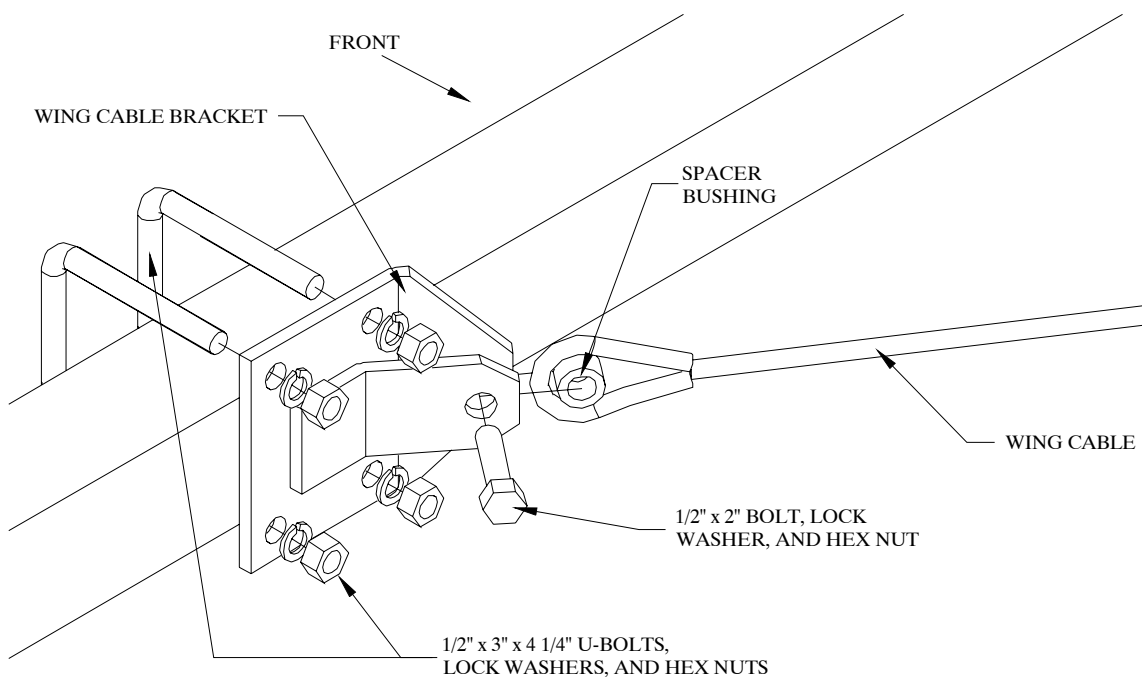

Figure 10
2. Bolt the wing cable brackets to the free end of the wing cables. Refer to Figure 10 on the previous page. Place one of the 17/32" ID x 15/16" OD x 9/16" spacer bushings into the free ends of the wing cables, then bolt the wing cables to the wing cable brackets using 1/2" x 2" bolts, lock washers, and hex nuts.